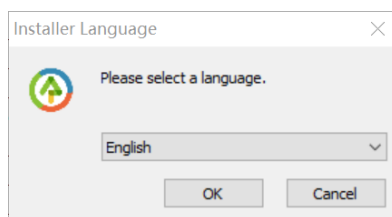

Fig. 2-1 Select Installer Language
1) Double-click  LEDUpgrade_Setup_x.xx.exe icon (for example, LEDUpgrade_Setup_3.2.exe), select the software installer language (Simplified Chinese or English), and click on "OK" (as shown in Fig.2-1);